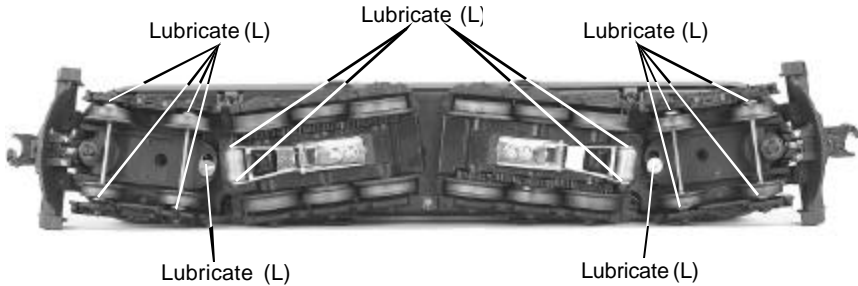
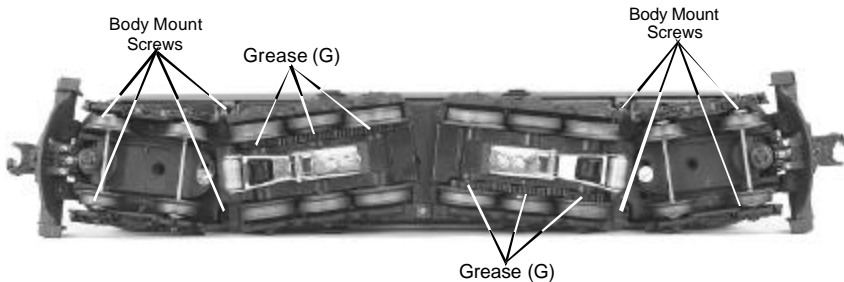

Figure 2. Lubrication Points on the Locomotive
Figure 3. Greasing Points on the Locomotive and the Locations of the Body Mounting Screws.
Although the engine was lubricated at the factory, it is important that you lubricate the chassis before operation. Lightly grease the outside idler and drive gears (marked “G” in Fig. 3 on page 7) to prevent them from squeaking. Use light household oil and follow the lubrication points marked “L” in Fig. 2 on page 7. Do not over-oil. Use only a drop or two on each pivot point.
You should regularly lubricate the pickup rollers to prevent them from squeaking. Use light household oil and follow the lubrication points marked "L" in Fig. 2. Do not over oil. Use only a drop or two on each pivot point.
1. Remove the screws from the chassis, as seen in Figure 3 on page 7, then lift the body away from the chassis.
It is also a good idea to lubricate the outside truck block idler and drive gears with grease occasionally. Add grease to the points marked with “G” in Figure 3.